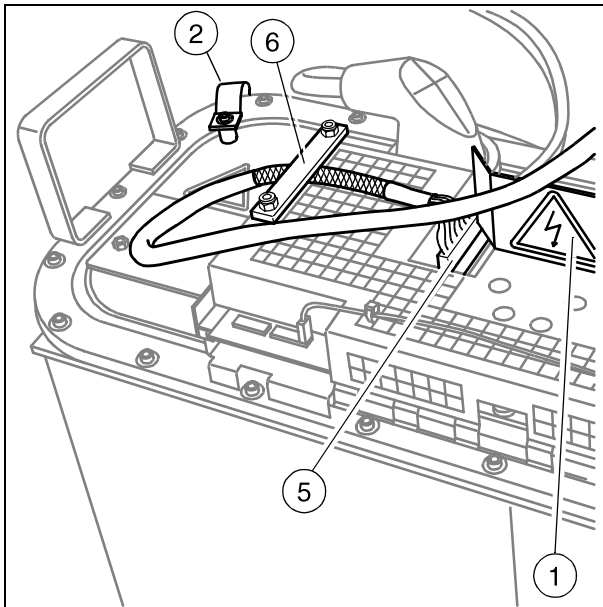

Fig. 50:
- Carefully remove the contact protection on D220 (1/Fig. 50 / p. 45).
- Connect the ground wire clamp to H1 (2/Fig. 50 / p. 45).
- Connect the X1 cable from D100 to X1 on D220 (5/Fig. 50 / p. 45).
- Reattach the contact protection (1/Fig. 50 / p. 45).